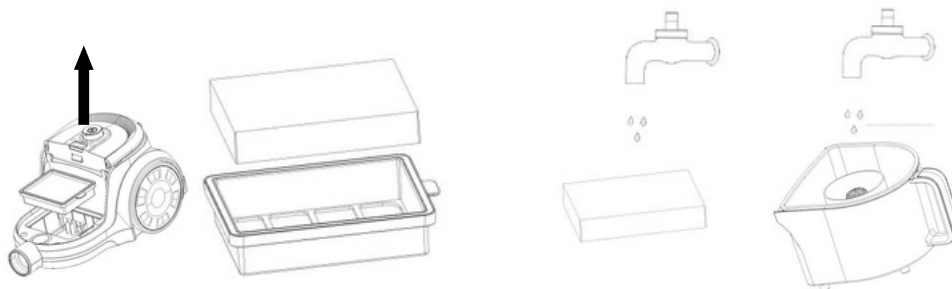

Fig 3
1. Remove the filter from the product (Fig 3)